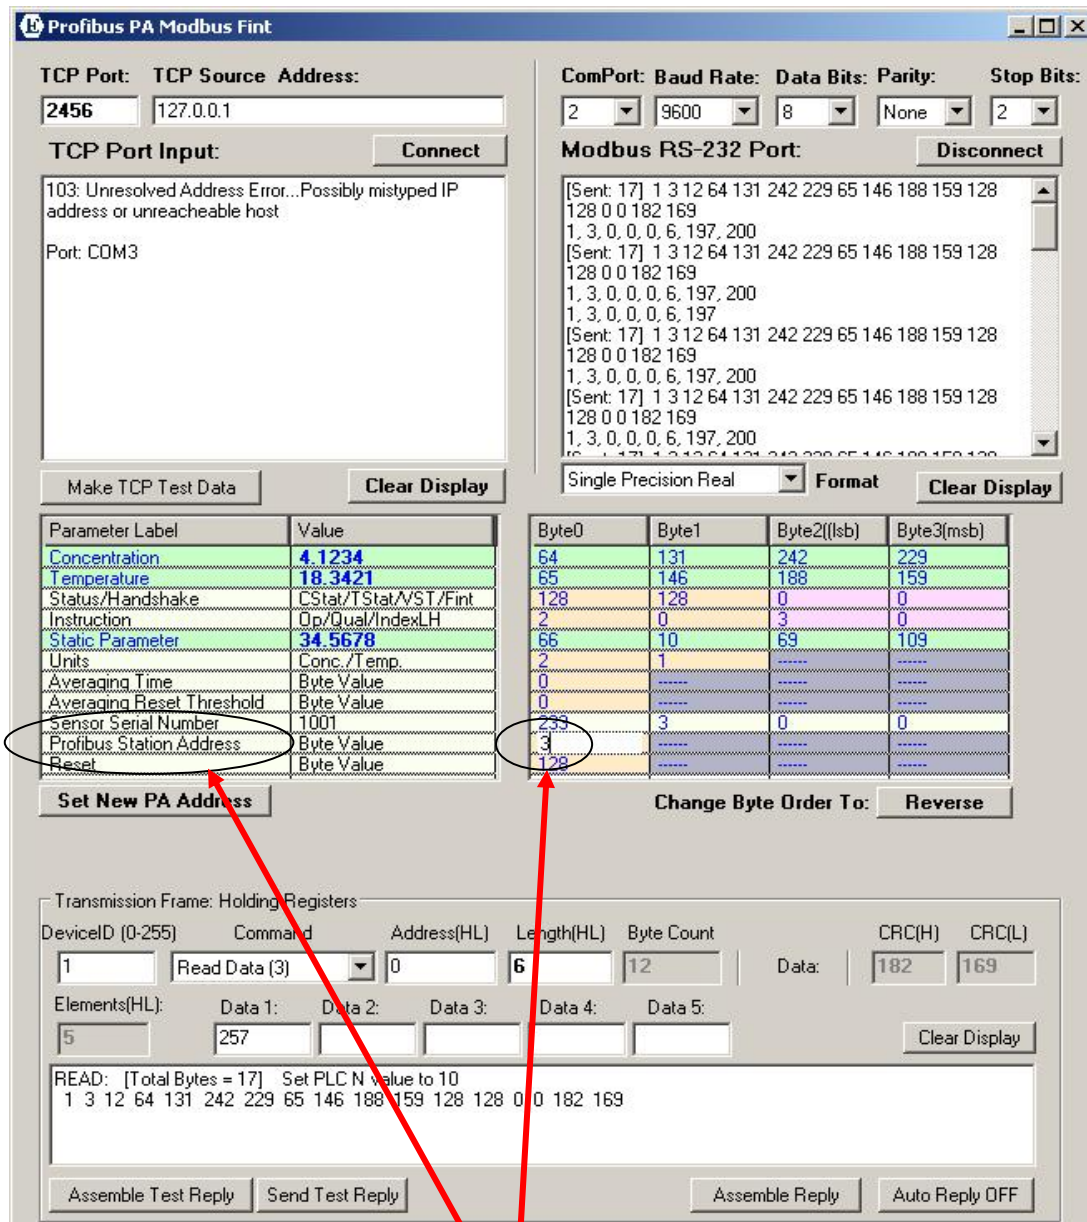

Fig. 17-25
2. On figure 17-25 below you will see a row labeled “Profibus Station Address”. Under the column Byte0 enter the desired station address number into that cell.
As shown in Fig. 17-25, there are two values, Concentration and Temperature plus status bytes for each sent to the PLC via PROFBUS PA. The values for each Parameter are shown in the Value column. The actual binary data are shown in the columns Byte0 to Byte3 and the format is an integer format that is converted to Floating Point in the PLC.